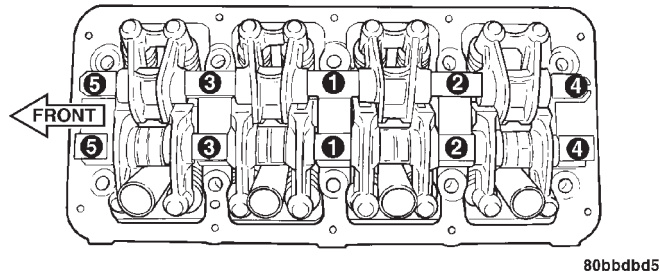

Fig. 51 Rocker Arm Shaft Tightening Sequence
(3) Tighten bolts to 28 N·m (250 in. lbs.) in sequence shown in (Fig. 51).